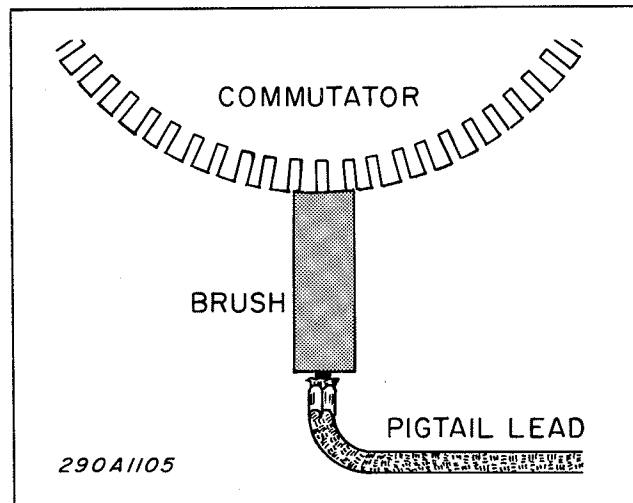

Figure 5-2. Replacement Brush Contouring.
12. Lift the brushes slightly and remove the sandpaper from the motor. Clean all carbon dust out of the commutator. The brush should seat on the commutator as shown in figure 5-2. If the brush does not fully contact the commutator, as shown in figure 5-2, repeat steps 7 through 12 until the brushes seat on the commutator as shown in the figure.
3. Install the replacement brush and replace the cap. Ensure that the brush is properly seated as indicated in figure 5-2, before tightening the cap. Make sure that the cap seats properly. However, do not tighten the cap excessively, or it may break.